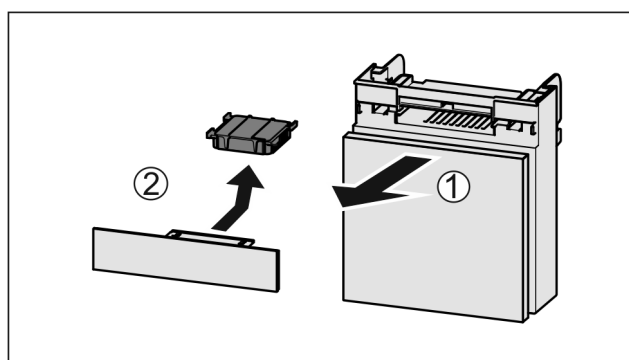

Fig. 67
- ▶ Pull out the compartment Fig. 67 (1).
- ▶ Remove the carbon filter Fig. 67 (2).